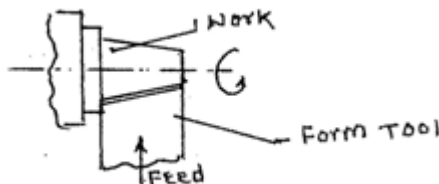

Fig 2 Marks, description 2 Marks
-- -- -- Fig. 2 Marks, description 2 Marks